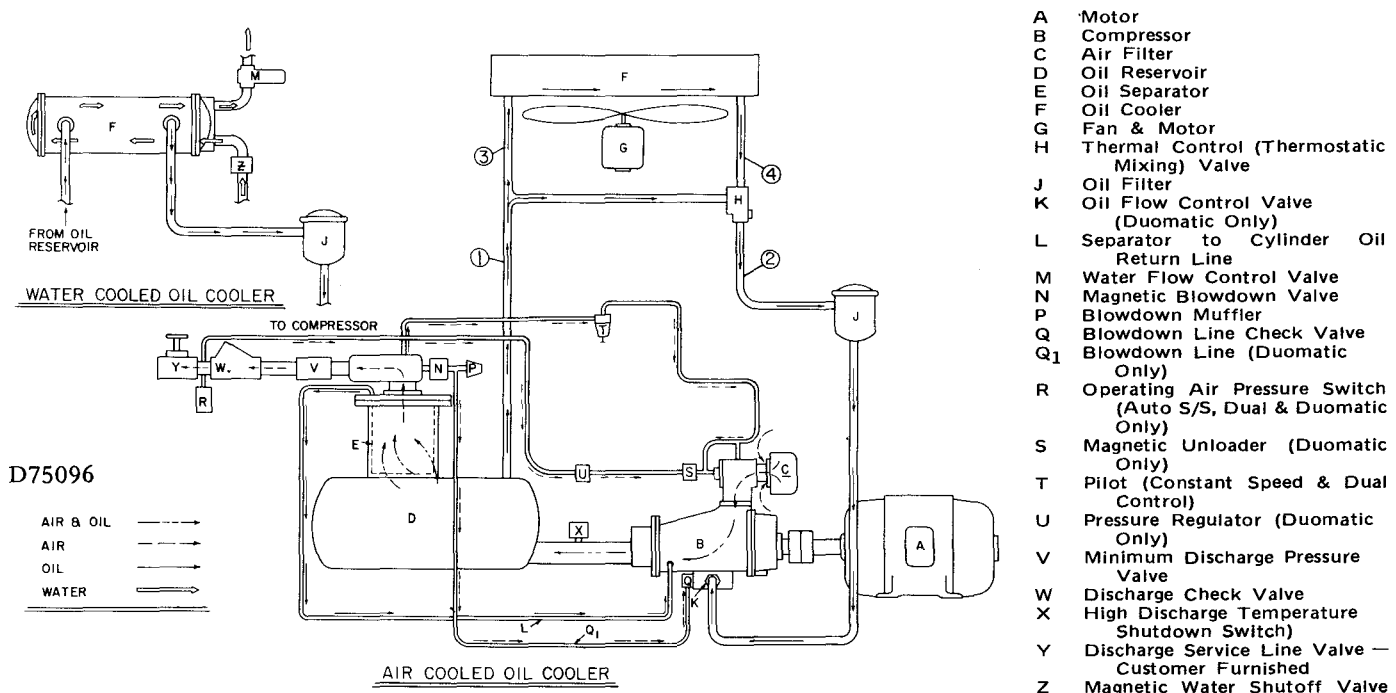
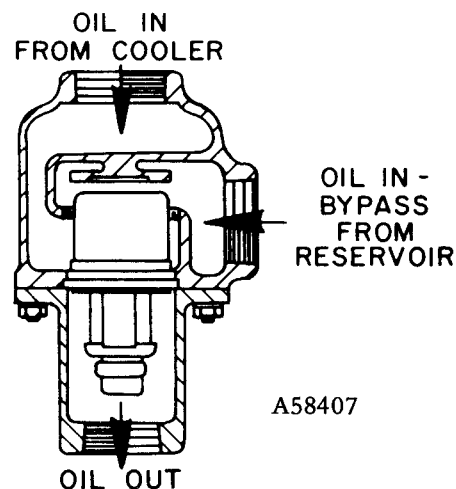
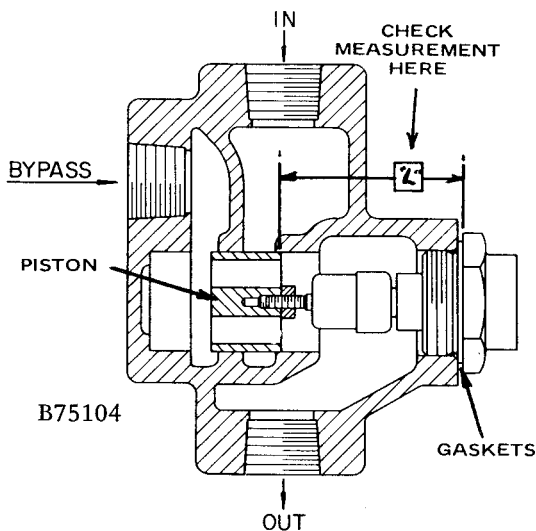
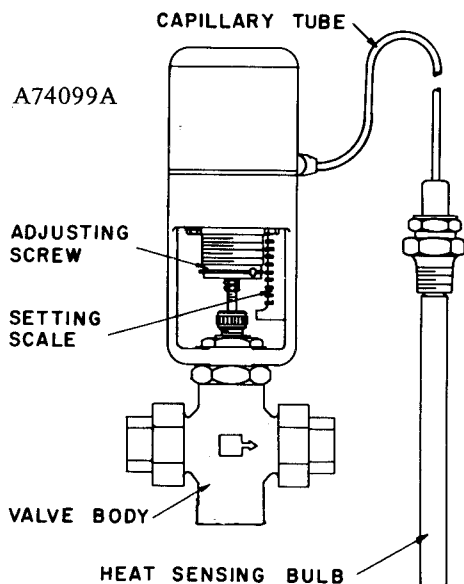

FIGURE 1-5. — FLOW DIAGRAM — AIR-OIL SYSTEMS
FIGURE 5-5A. – THERMOSTATIC MIXING VALVE
FIGURE 5-5B. — THERMAL CONTROL (THERMOSTATIC MIXING) VALVE (ADJUSTABLE)
FIGURE 6-5. — WATER CONTROL VALVE
**COMPRESSOR OIL SYSTEM** (Figure 1-5) cools the compressor, lubricates moving parts and seals internal clearances in the compression chamber.
**THERMAL CONTROL (THERMOSTATIC MIXING) VALVE (Used With Radiator-Type Oil Cooler Only)** (Figure 5-5A) is installed in the system as shown in the flow diagram, Figure 1-5. On start-up, with the unit cold, the thermal element in the valve is open to the bypass line, allowing oil to circulate directly from the oil reservoir to the compressor during the warm-up period. As the oil warms up, the thermal element gradually opens to allow oil from the cooler to mix with oil from the bypass line. After the unit is warmed up, the control valve is to maintain oil injected into compressor at a minimum of the valve set temperature.
If unit shuts down due to high air discharge temperature, the thermal element may be stuck open to the bypass position blocking the cooler out of the system, in which case lines 1 and 2 (Figure 1-5) will be hot to the touch and lines 3 and 4 much cooler. To check the thermal element, heat in oil and check that valve is wide open at  $\pm 5^\circ$  F. of rating stamped on element.
Early models used the adjustable valve shown in Figure 5-5B. This valve and parts are no longer available and the complete valve shown in Figure 5-5A must be used for replacement.
The setting of valve in Figure 5-5B may be adjusted to raise or lower the inlet oil temperature within a small range. Do not adjust the valve to maintain an oil inlet temperature below  $130^\circ$  F.
**COMPRESSOR OIL COOLER — WATER-COOLED HEAT EXCHANGER** (Figure 5-1) — The heat-exchanger cooler is a multiple-pass type, with water in the tubes and oil in the shell. The water flow is regulated by a self-operated flow control valve (Figure 6-5) installed in the water outlet line from the oil cooler as shown in the flow diagram (Figure 1-5) and designed to maintain the oil injected into the compressor at a minimum of  $130^\circ$  F. Even when the unit has a built-in aftercooler the water flow is still adjusted to provide the  $130^\circ$  F. oil temperature. See "Thermal Control (Thermostatic Mixing) Valve" above for discharge temperature required in high humidity operation. See "Oil Specifications" (page 1, this section) for maximum allowable oil inlet temperature. The valve's temperature sensing bulb is located in the oil outlet line of the oil cooler. An oil temperature change at the bulb operates the valve, increasing
**WATER FLOW CONTROL VALVE FOR HEAT EXCHANGER** (Figure 6-5) — The water flow control valve is adjustable to compensate for varying inlet water temperatures. Use the oil temperature thermometer on the instrument panel in setting the flow control valve. **To decrease**
**WATER SHUTOFF VALVE — WATER-COOLED HEAT EXCHANGER** (Figure 1-5) — A magnetic solenoid-operated water shutoff valve rated at 150 PSIG water pressure is supplied in the water inlet line ahead of the oil cooler. The valve is wired into the compressor control circuit and opens to allow water to flow any time the ON-OFF push button is ON and the compressor is running. When compressor stops under automatic control, or is shut off manually, the valve closes, stopping water flow through the system.